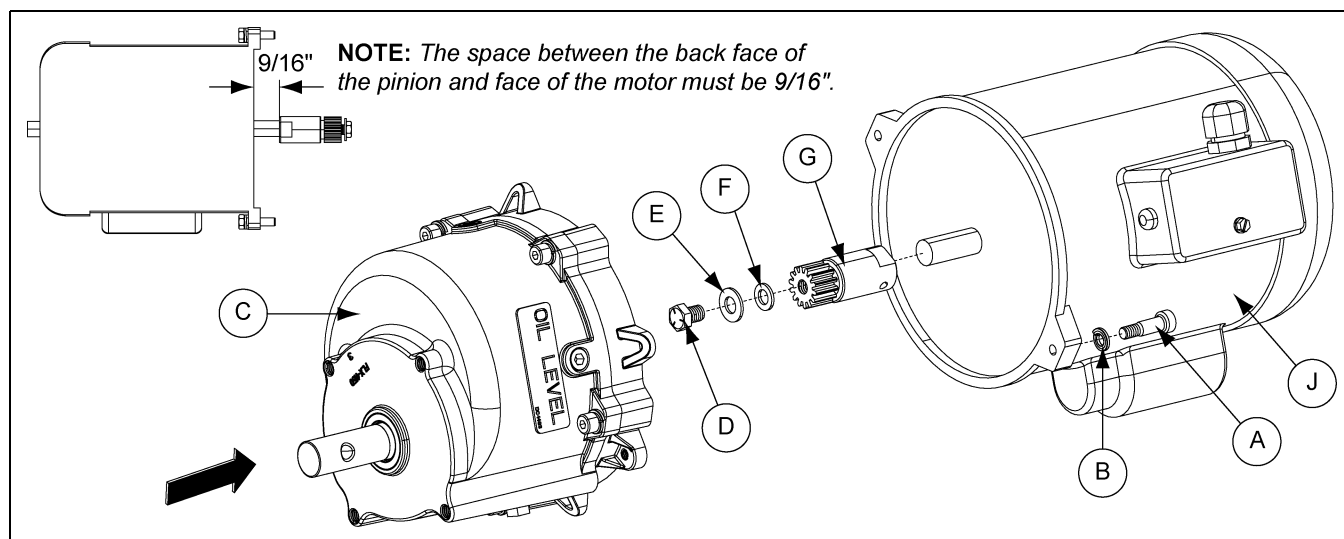

Figure 5W
- Re-install the gearbox (C) to the motor (J) using the bolt (A) and washer (B) previously removed. (See Figure 5W.) Tighten bolt to 50 in-lbs.